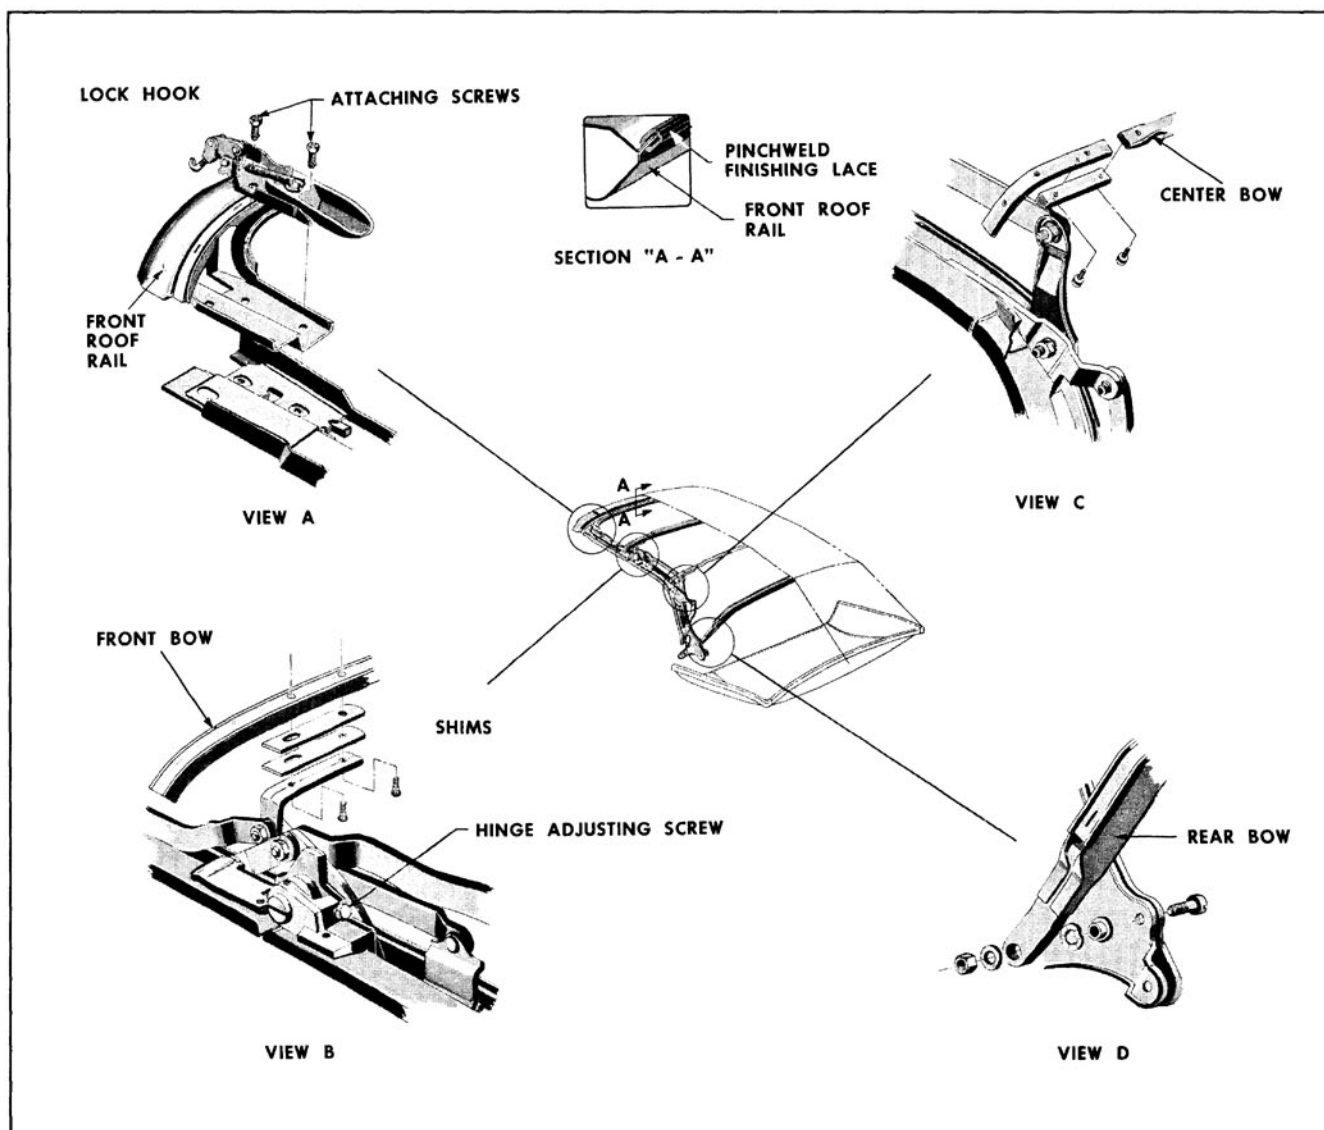

Fig. 16-429 Top Linkage
2. Loosen side roof front rail attaching screws and adjust front roof rail fore or aft as required. Repeat on opposite side if necessary. (View "A", Fig. 16-429)
2. With top in a half-open position, remove lock attaching screws; then remove lock assembly from front roof rail. (View "A", Fig. 16-429)